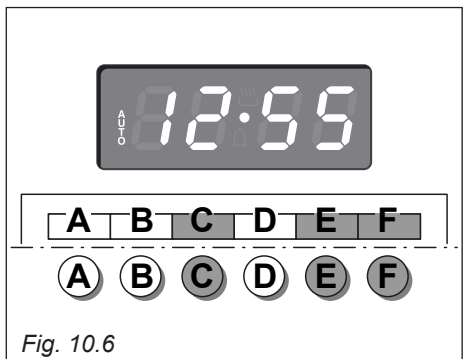

Fig. 10.6
2. Set the end of the cooking time by pressing the “C” button (the cooking time already added to the clock time will appear) and the “F” button (fig. 10.6); if you pass the desired time you may get back by pushing the “E” button.